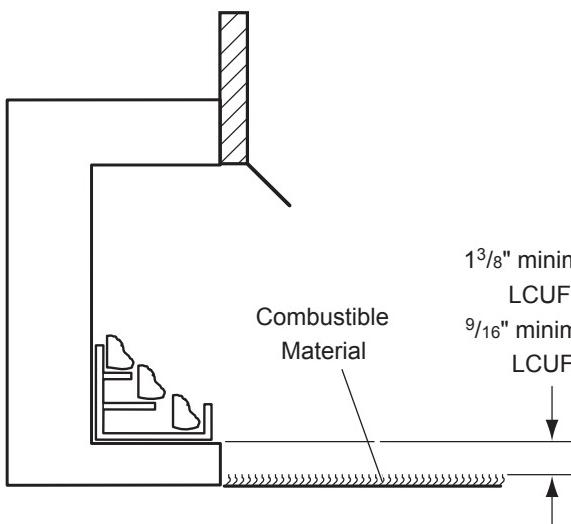

**Figure 5 - Mantel Clearances**
4. **Mantel clearances:** The canopy supplied with the unit must be installed. If a combustible mantel is installed, it must meet the clearance requirements as shown in *Figure 5*. However, if lower mantel height is desired, *see page 15* for canopy options.